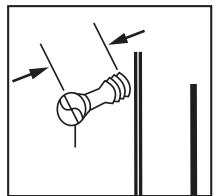

FIGURE 4
4. Pre-drill holes marked in Step 3. Using the one-way tool, fasten the door to the house using three one-way screws. **Tighten the one-way screws only halfway** at this time, in case repositioning the door is required later (Fig. 4).